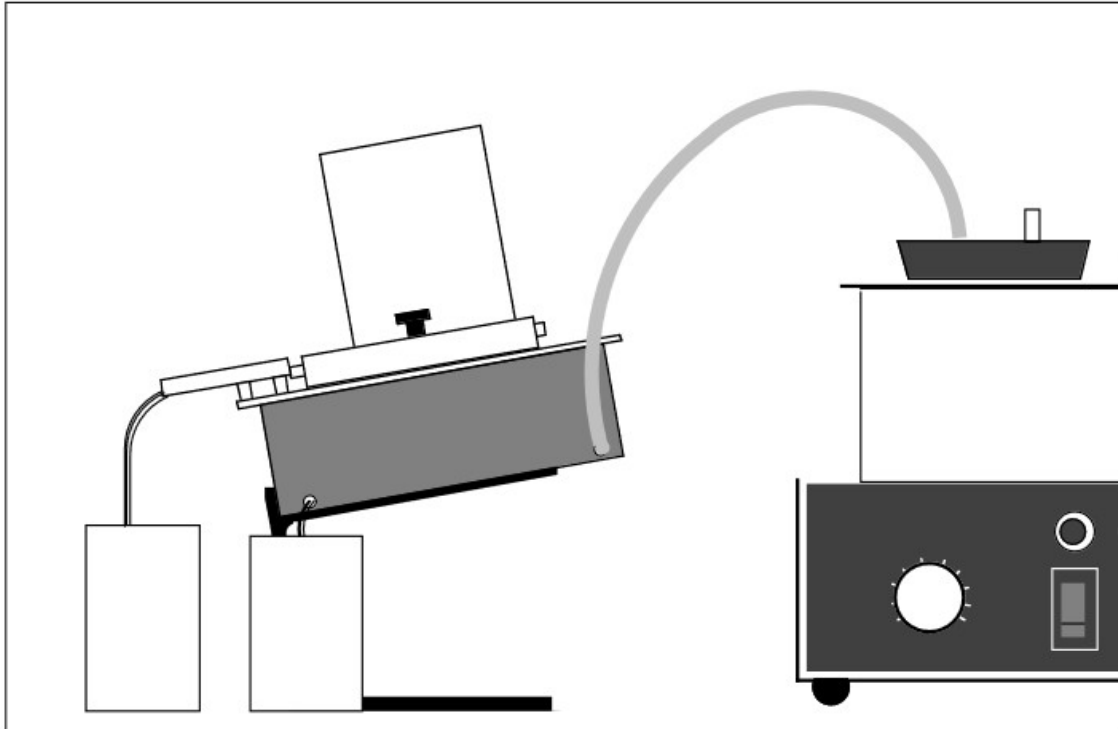

Figure 1: Thermal Conductivity experiment setup
2. Mount the sample material onto the steam chamber as shown in Figure 1. **NOTE: Take care that the sample material is flush against the water channel, so water will not leak, then tighten the thumbscrews. A bit of grease between the channel and the sample will help create a good seal.**
3. Measure the diameter of the ice block at 4 or 5 different heights. Record these value as d_1 . Place the ice on top of the sample as shown in Figure 1. Do not remove the ice but make sure that the ice can move freely in the mold. Just place the open end of the mold against the sample, and let the ice slide out as the experiment proceeds.